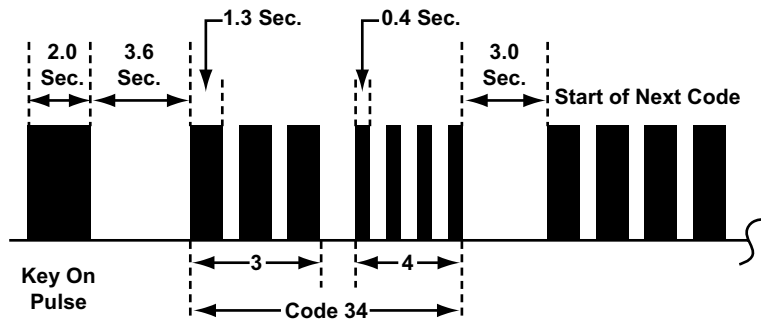

Figure 8-30 Honda ABS Code Type 04a
- Type 04a, see Figure 8-30 and Table 8-8 on page 79